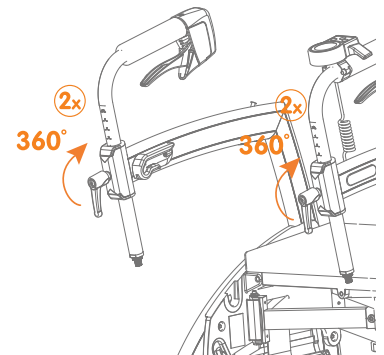
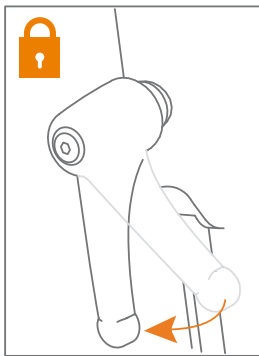

Figure 25: Tighten the adjustment handles.
Figure 26: Tighten.
- f. Turn the adjustment handles clockwise to tighten them (**Figure 25**) and (**Figure 26**).